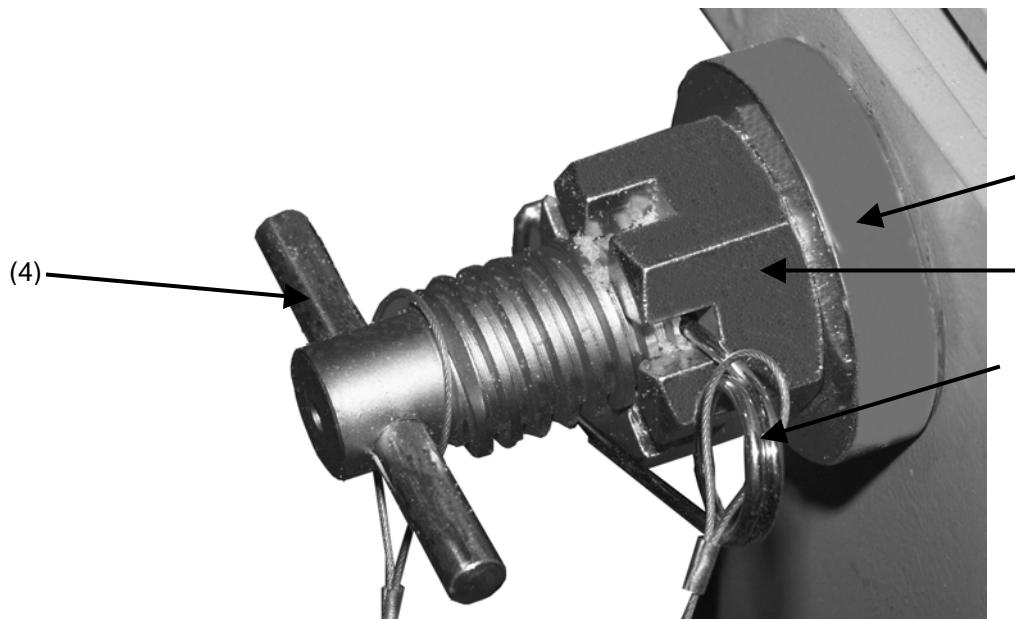

Figure 4-65. Block T-lock with pin.
2. Using a 3/8" hex key (WP 0058 00, SATS Base Tool Component List), remove two bolts located on vertical from two corner gusset plates (1) (see Fig. 4-65) located on either side of jack.
1. Remove locking pin (3) from ISO block T-lock (Fig. 4-65) located on the ISO extension block, which is attached to trailer.